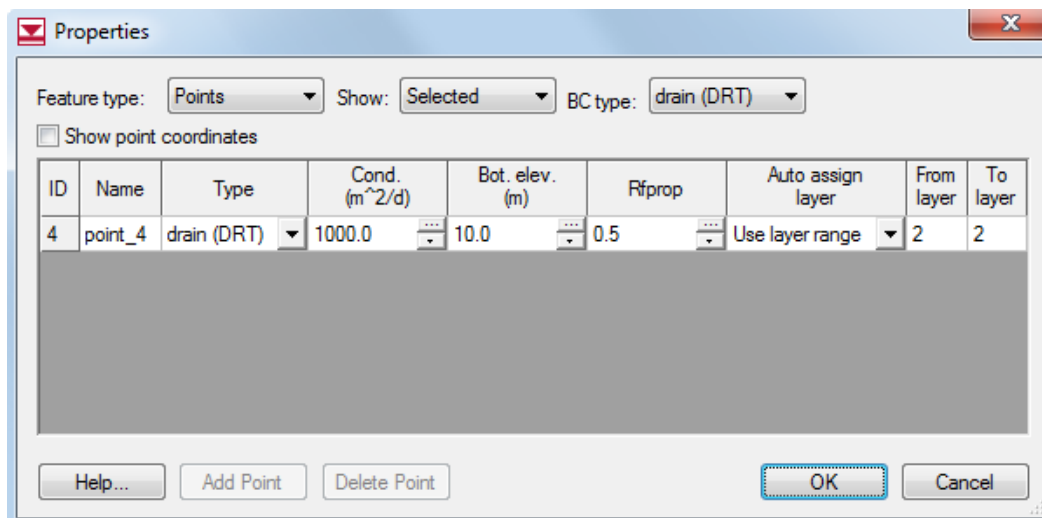

Figure 5. Coverage Properties dialog showing the polygon.
5. In the *Properties* dialog, set the values to be as shown in Figure 5.